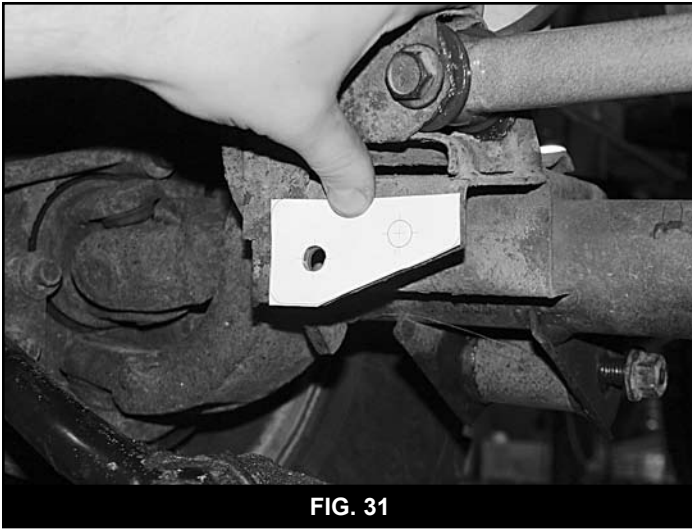

FIG. 31
77. Cut out the stabilizer bracket template at the end of this instruction sheet. Align the template to the original track bar mount on the passenger's side of the axle. The template will match up to the existing hole and the profile (Fig 31). Mark the second hole to be drilled with a center punch. Remove the template and drill hole to 3/8".